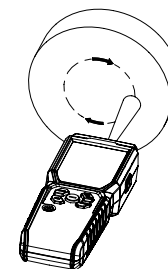

Figure. 4
1. Non-Contact---RPM/Hz (Figure 4)